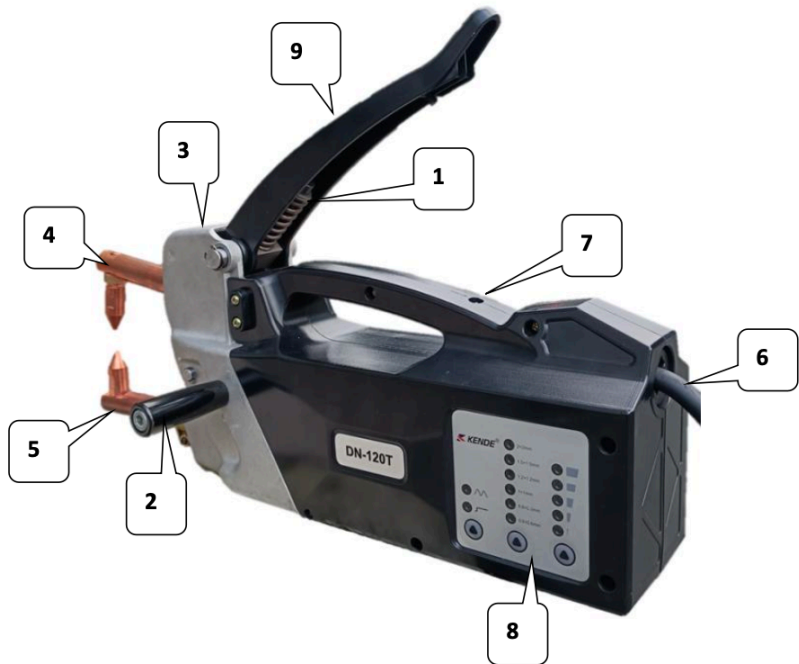

FIG.1
- pull the clamp lever to the end of its stroke, and hence until the **microswitch** is pressed (8-FIG.1) so that: